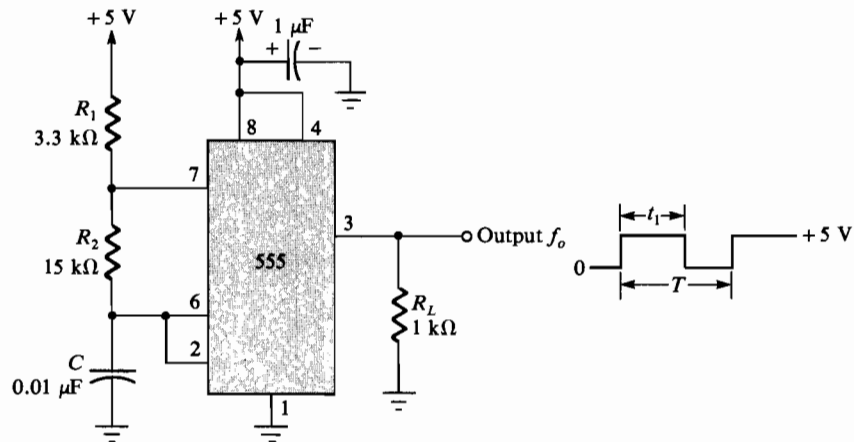

FIGURE 36-1 Schematic diagram of circuit.
1. Wire the circuit shown in the schematic diagram of Figure 36-1 using a 5 V supply. Set the oscilloscope to the following approximate settings:
1. For the 555 timer astable multivibrator circuit of Figure 36-1, the output frequency is approximately
2. For the 555 timer astable multivibrator circuit of Figure 36-1, the percent output duty cycle is approximately